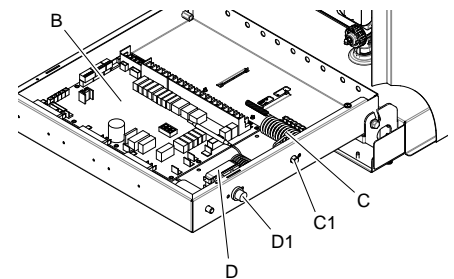

fig. 20 - Internal view of electrical cabinet
- B Electronic hydronic board (fig. 20)
- C Thermal cut-off switch for single-phase electric resistance with manual reset button (detail C1 fig. 20)
- D Thermal cut-off switch for three-phase electric resistance with manual reset button (detail D1 fig. 20)